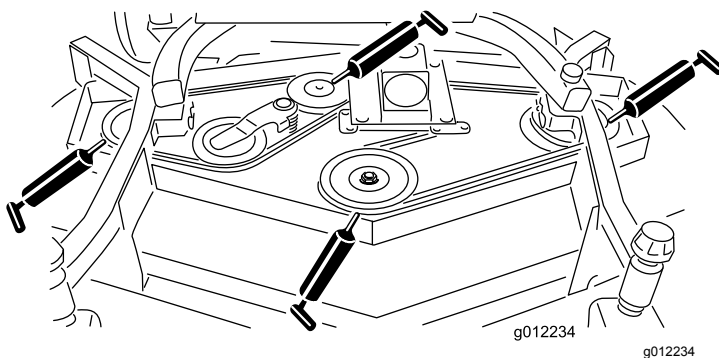

Figure 19
- Spindle shaft bearings (located under the pulley) (Figure 19)
- Idler arm shaft bearings (Figure 19)